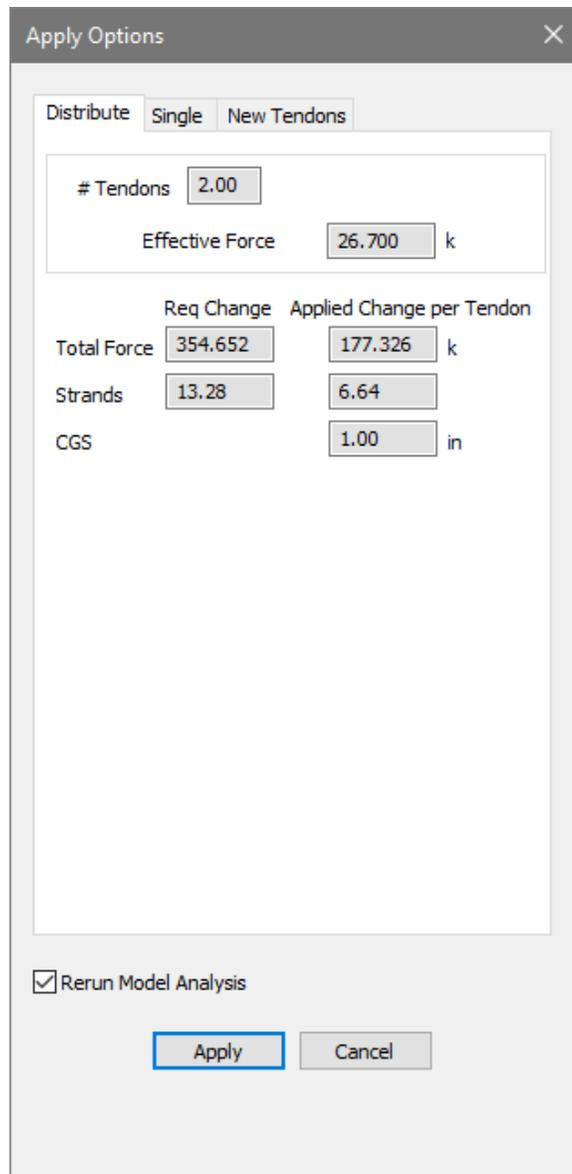

Figure 9-94
- In the above window we can see the *Current and Estimated values* for the tendon design. The current value is based on the tendons we selected and the estimated value is based on the changes the optimizer proposes. Click the *Apply to Model* button. This will open the window shown in **FIGURE 9-94**.